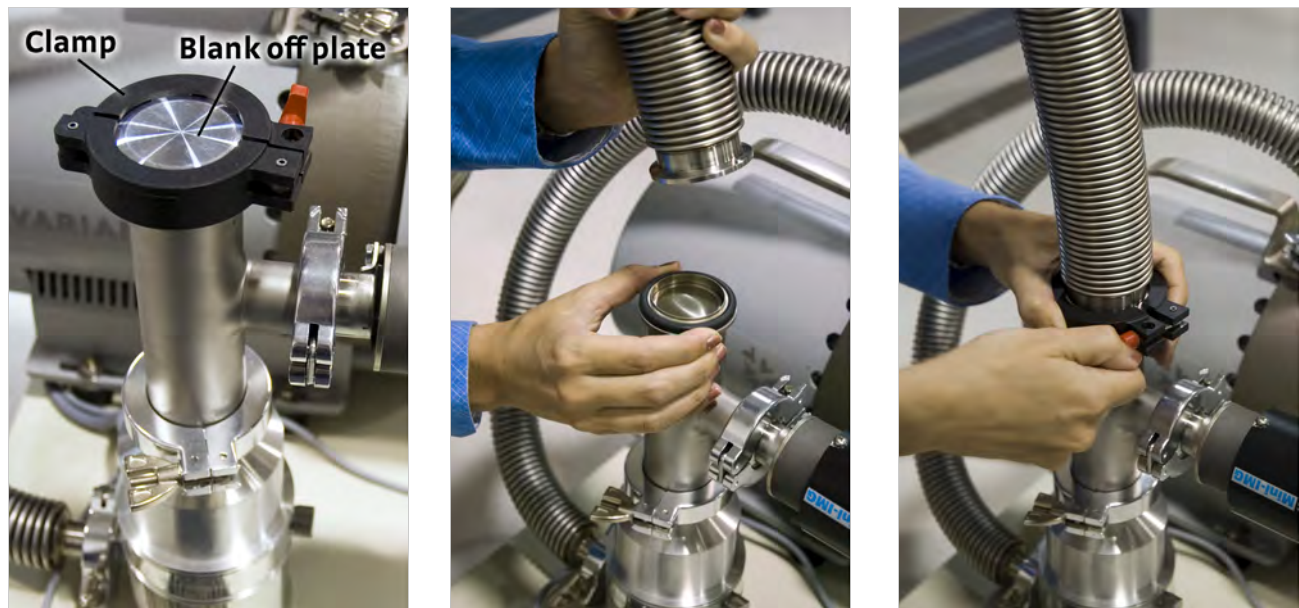

FIGURE 3-15 Left: Remove the clamp and protective cap; Middle and Right: Install the vacuum line to the pump
- a. Remove the clamp and protective cap from the fitting shown in FIGURE 3-15. The center ring may come out; retain the ring to use in the next step.
- d. Finger tighten the clamp with the screw. See FIGURE 3-15.